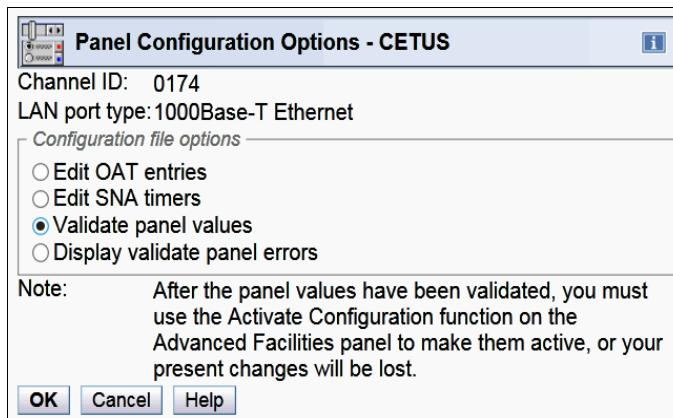

Figure 6-15 OSA/SF on the HMC: Validate window values
11. When you complete editing the OAT entries or SNA timer, the Panel Configuration Options window is displayed again. To activate the settings, you must validate them by selecting **Validate panel values**. Then, click **OK** (see Figure 6-15).